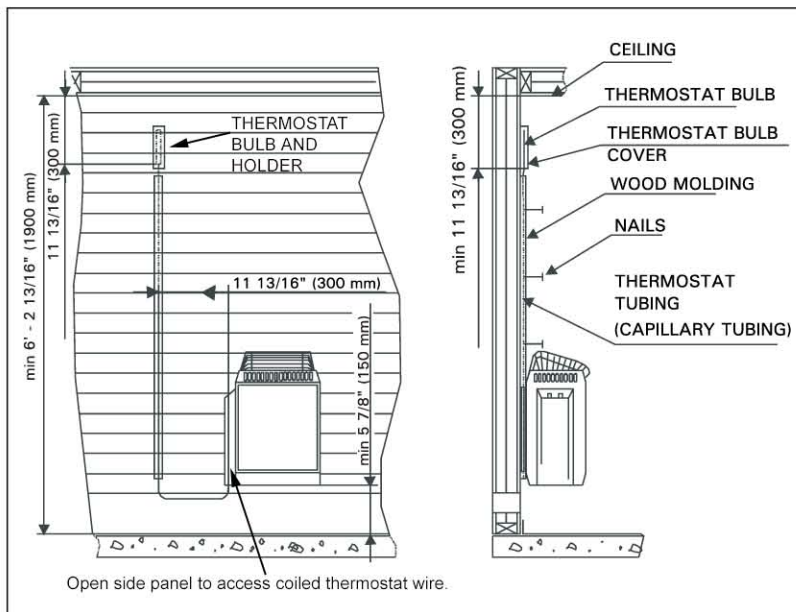

**Figure 6. Location of the mounting rack of the heater**
1. Fasten the wall-mounting rack on the wall by using the screws which come with the rack. Observe the minimum safety distances given in table 1 and fig. 5. The fastening of the mounting rack is shown in figure 6.